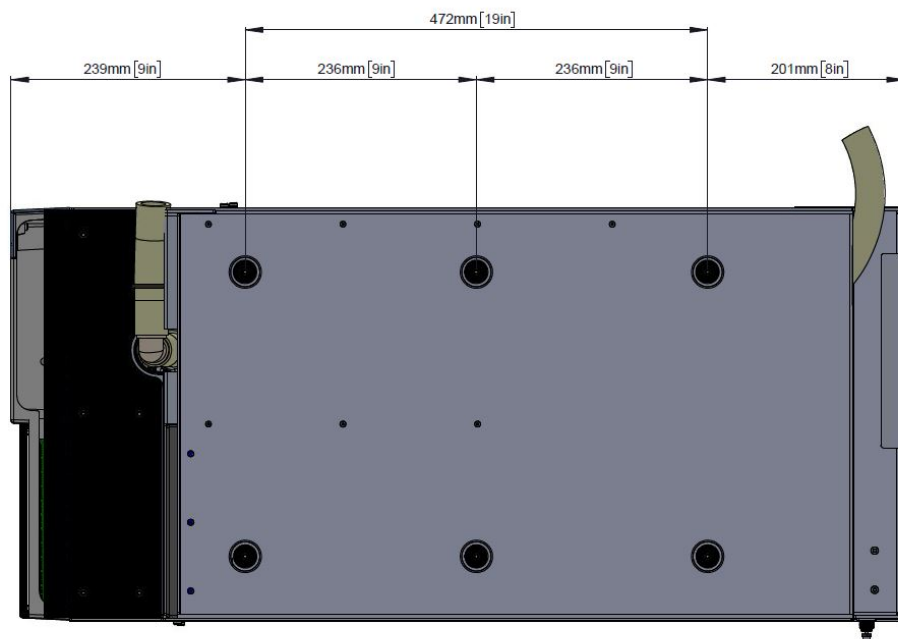

Figure 1: Location of the feet on the bottom of the ISQ EC or ISQ EM instrument
- 2) The instrument is designed to sit on a standard 30 in (76.2 cm) deep bench. Be sure the ISQ EC or ISQ EM instrument's feet fit securely on the workbench. See Figure 1 for the position of the feet on the bottom of the instrument.